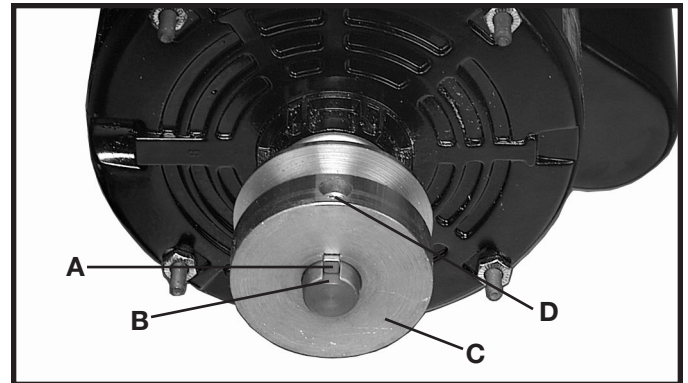

Fig. 24
2. Place the pulley key (A) Fig. 24, in the slot (B) on the motor shaft.
3. Align the slot in the motor pulley (C) Fig. 24, with the key (A), on the motor shaft.
4. Slide the motor pulley (C) Fig. 24, on to the motor shaft, and tighten set screw (D) Fig. 24, on the pulley against the key (A) on the motor shaft.